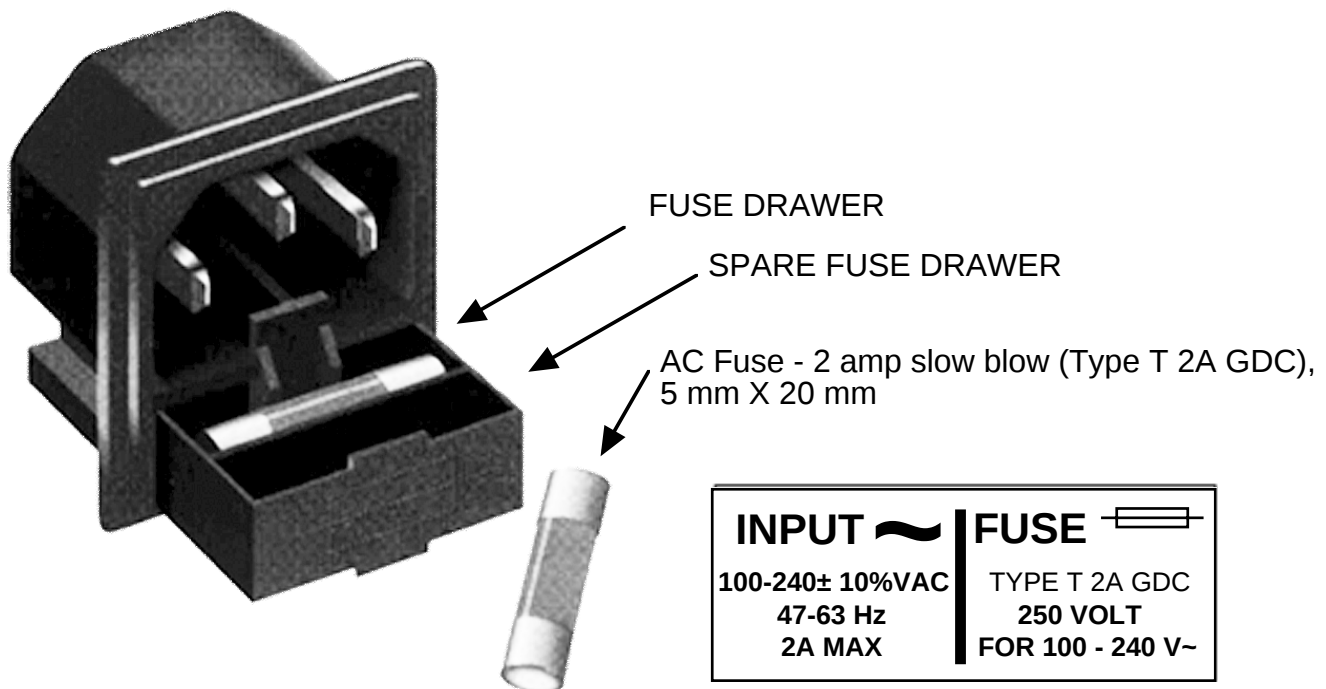

Figure 2.3 Fuse Location and Spare Fuse
7. AC Fuse - The fuse is a 5 mm X 20 mm, 2 amp slow blow (Type T) and is inserted in the far slot in the drawer below the AC input as shown in Figure 2.3. There is a spare fuse in the near slot. If a fuse continues to open, the power supply is most likely defective.